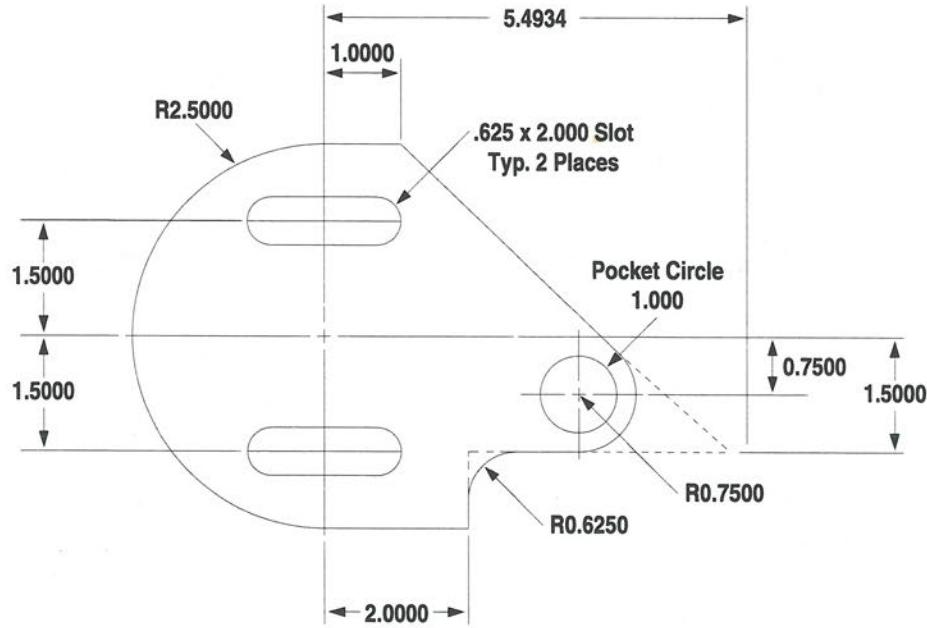

Figure 2-1
The blueprint for the part you are going to cut is shown below in Figure 2-1.
6. Based on the blueprint in Figure 2-1, select your work material and cutter (the part measures $6.8'' \times 5''$ and is cut at a $0.25''$ depth). The cutter should be a $0.25''$ endmill.